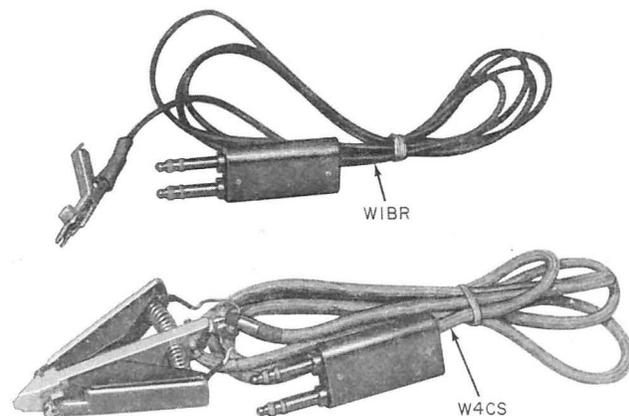

Fig. 4—Test Cords—W1BR and W4CS
2.20 The W1BR cord is shown in Fig. 4. This cord will only be used in the IDENTIFICATION TONE jacks. It consists of a 425A plug, a length of instrument wire, and a pincushion clip. It is used for wire identification. In normal wire identification operations the FUNCTION switch will be set to AUTO MONITOR IDENTIFICATION TONE position. This will provide the customer protection from interference.
2.21 The W4CS cord, shown in Fig. 4, is also used only for wire identification purposes. It consists of a 425A plug, a four-wire cord and an AT-8255F clip. This cord has two uses.